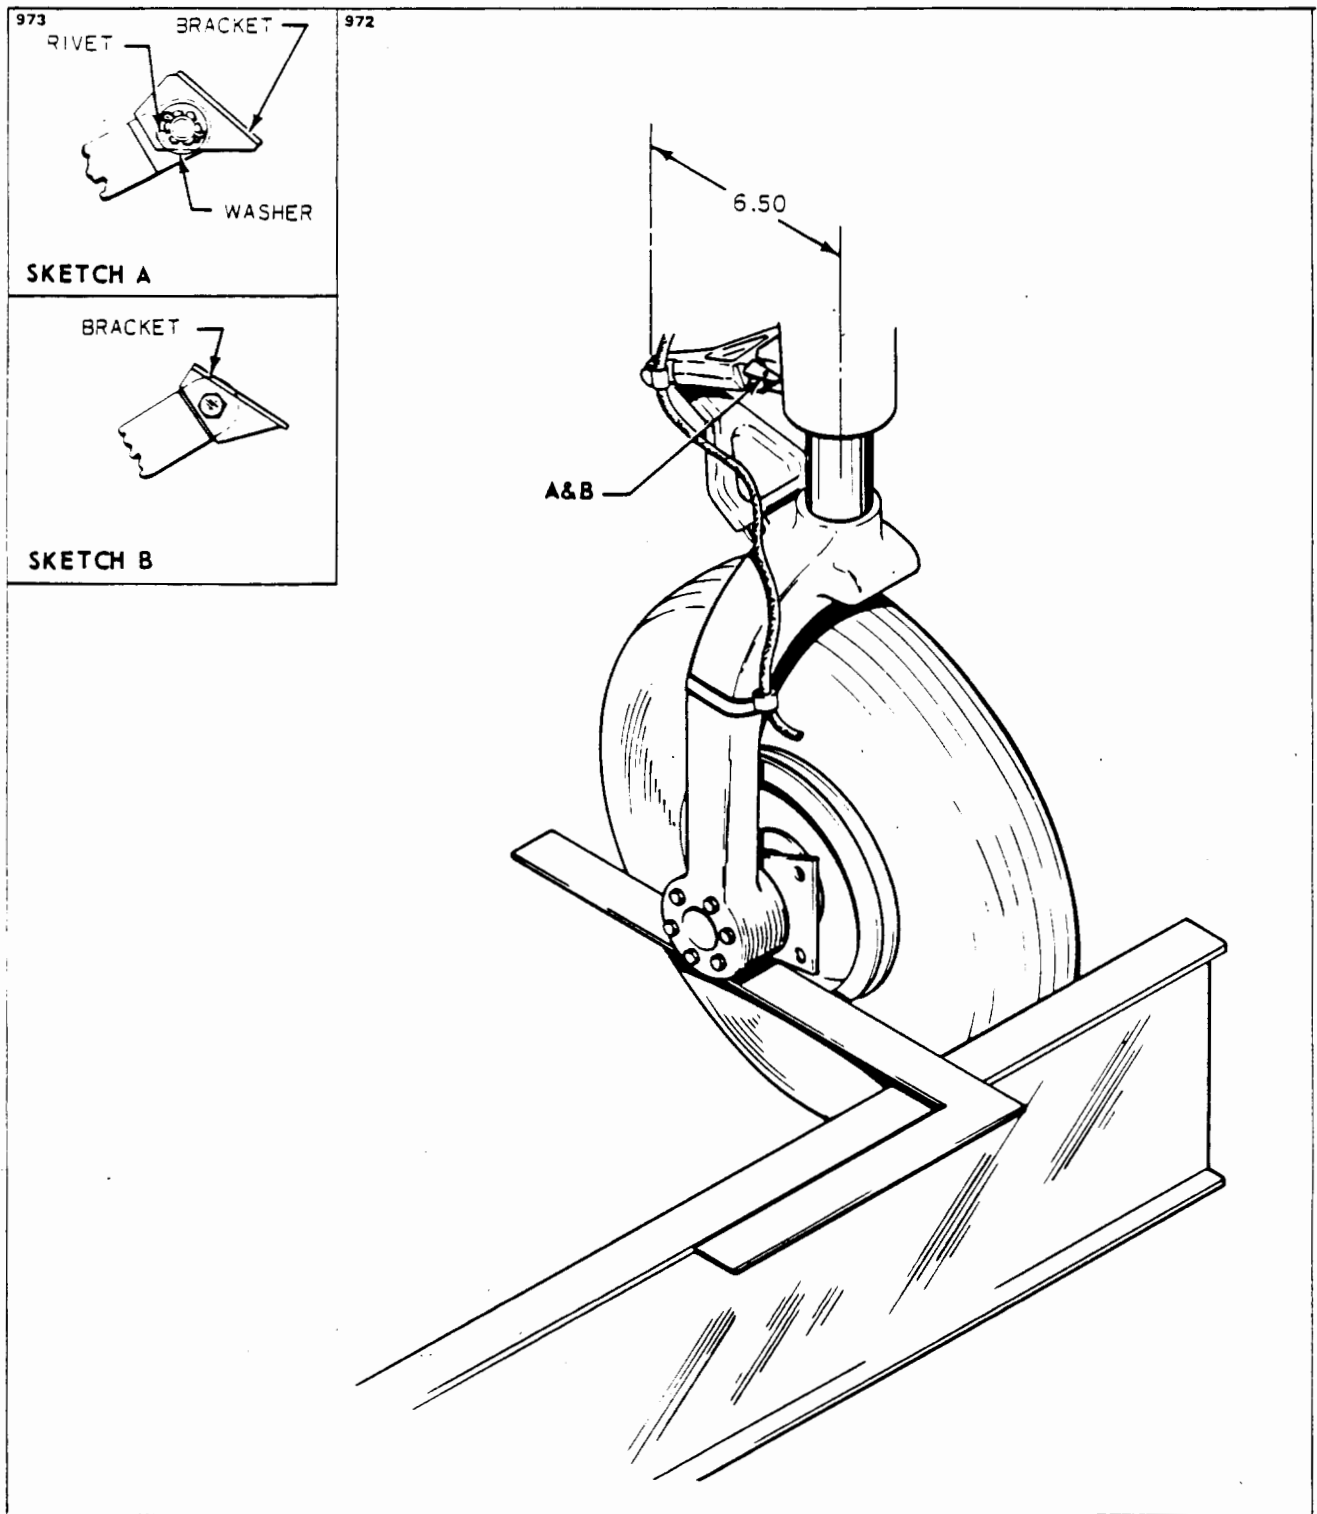

Figure 32-4. Aligning Main Gear
ALIGNMENT OF MAIN LANDING GEAR. (Refer to Figure 32-4.)
7. If a new link on the top left main gear had to be installed or it had to be reversed during the alignment check, it will be necessary to check the gear safety switch (squat switch) bracket for engagement and locking in place. If the large machine surface of the link is inboard, the bracket is mounted with the small rivet hole next to link. (Refer to Sketch A, Figure 32-4.) This hole should be aligned with centerline of the link and a .096 inch hole drilled .150 inch deep. Insert an MS20426AD3-3 rivet in the hole. This locking rivet is held in place by the flat washer, castellated nut and cotter pin. If link has to be reversed, then the bracket and bolt are also reversed. (Refer to Sketch B, Figure 32-4.)